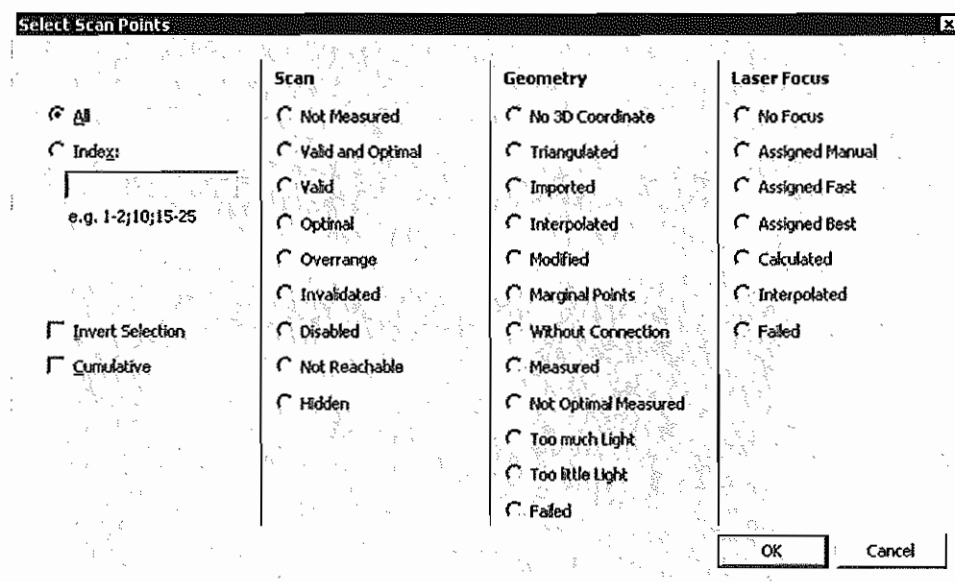

Figure 5.10: Dialog Select Scan Points
1. Select Edit > Select Points or click the object with the right mouse button and select Select Points in the context menu. The dialog Select Scan Points appears (refer to FIGURE 5.10).